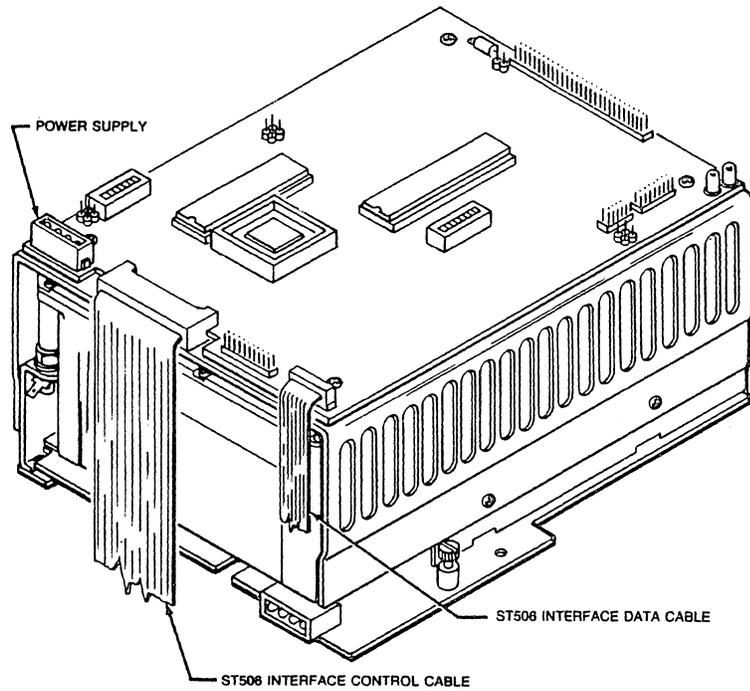

Figure 3-3. Connecting Disk Drive Data and Control Cables to MD01 Controller
4. Connect control cable from disk drive to 34-pin IDC connector P1 on MD01 Controller (see Figure 3-3).
5. Connect data cable from disk drive to 20-pin IDC connector J3 and/or J4 on MD01 Controller (see Figure 3-3).
6. Connect cable from power supply to power connector J1 on MD01 Controller (see Figure 3-3).